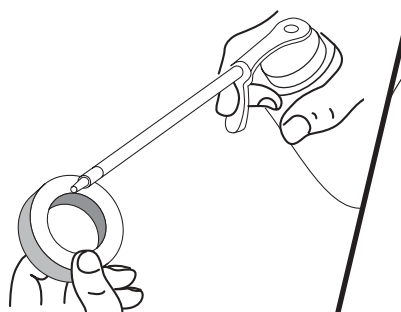

Figure 29
4. Apply enough clean SAE 30 oil to lightly coat the filter. See Figure 29.